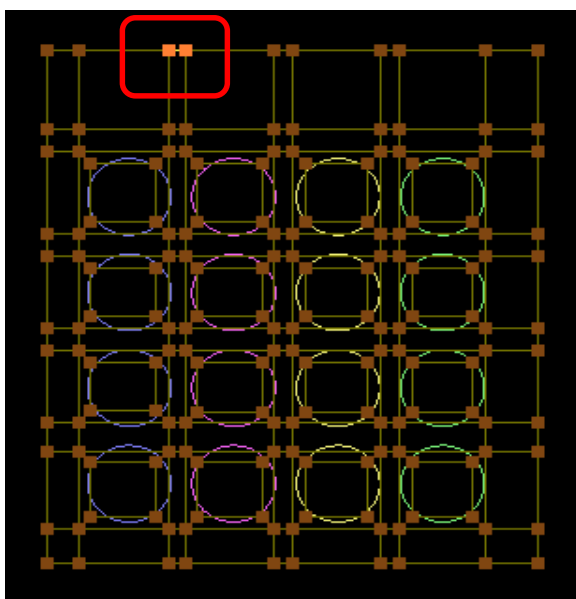

Figure 30.1
- Group the corners in a group as shown in figure 30.1.